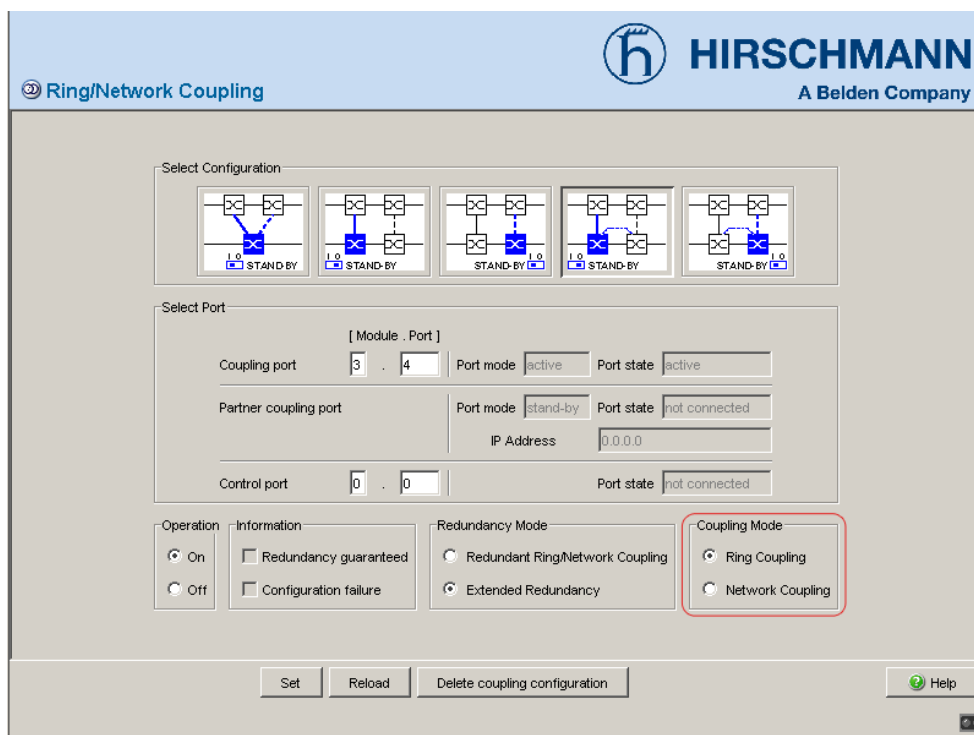

Figure 56: Selecting the coupling mode
- In the “Coupling Mode” frame, select (see fig. 56)